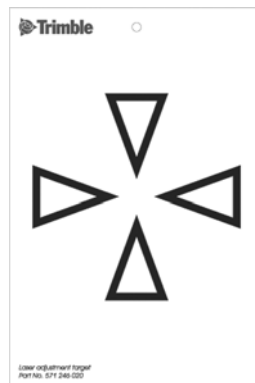

Figure 4.4 Adjustment target for Trimble S9 Total Station
3. If the red laser spot lies outside the cross-hairs, adjust the direction of the beam until it matches the cross-hairs, see Figure 4.4